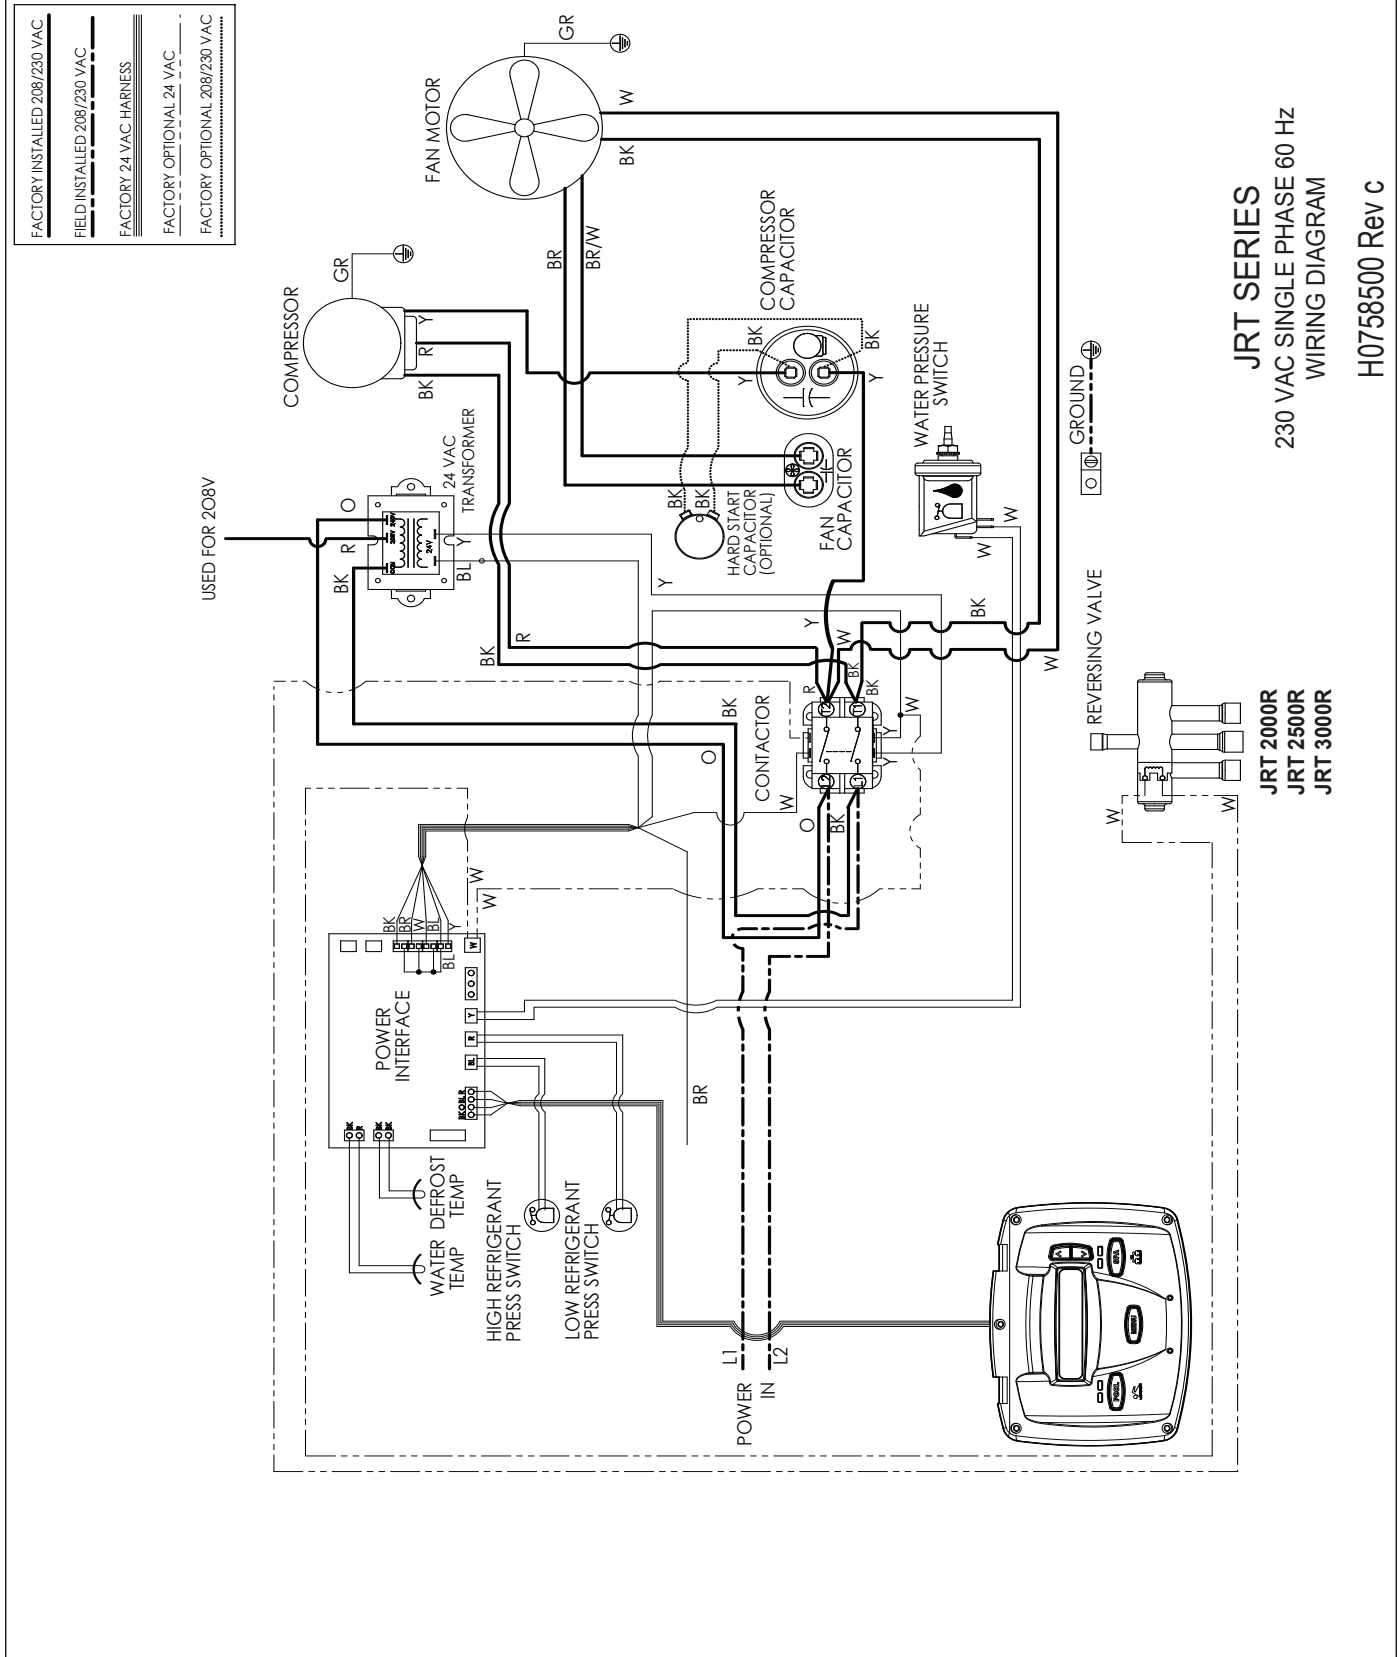
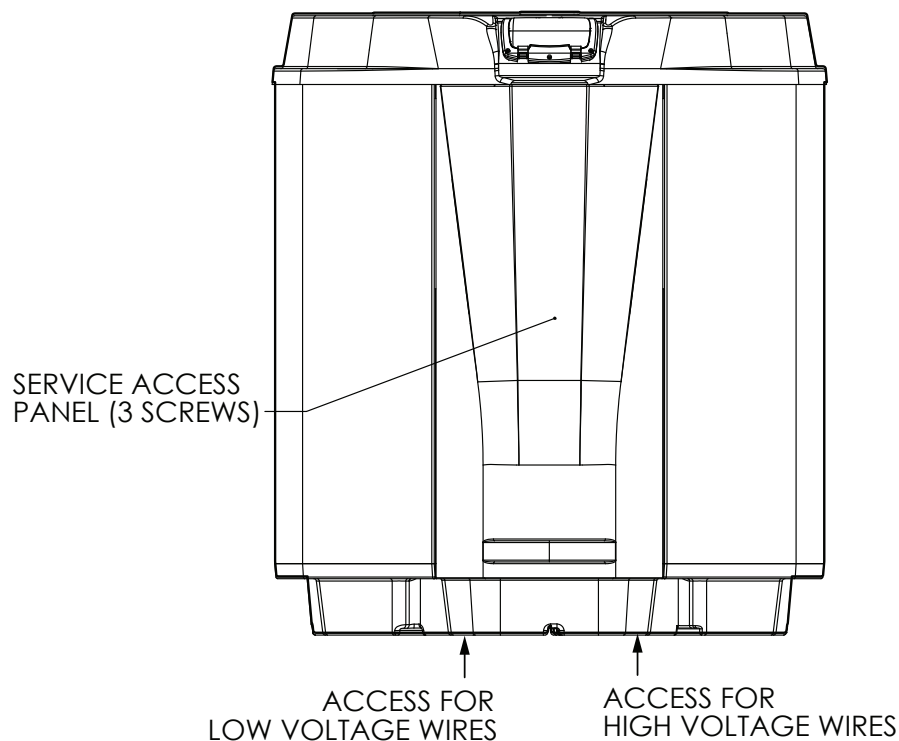

Figure 8. JRT Single-Phase Electrical Supply Wiring Diagram
Figure 9. Jandy JRT Heat Pump Front View
Wiring connections must be made exactly as shown in the wiring diagram found on the inside of the heat pump access compartment (see Figure 8 for single phase electrical wiring). The heat pump must include a definite means of grounding and bonding. There is a bonding lug on the right side of the heat pump, where a bond wire must be attached.
2. Remove the three (3) screws that attach the service/access panel to the heat pump unit (see Figure 9).
8. Connect the wires to the terminals on the main contactor as shown in the wiring diagram. See Figure 8.
2. Remove the screws that attach the service/access panel to the heat pump unit and the cover to the junction box (see Figure 9).
3. Run the wires from the pool/spa control system into the conduit connection labeled "Low Voltage Connection", located on the lower right hand side of the heat pump (see Figure 9).
2. Remove the screws that attach the service/access panel to the heat pump unit and the cover to the junction box (See Figure 9).
3. Run the wires from the pool/spa control system into the conduit connection labeled “low voltage connection”, located on the lower right hand side of the heat pump (See Figure 9).
2. Remove the three (3) screws that attach the front panel to the heat pump and remove the front panel. See Figure 9.
5. Run four (4) 22 AWG solid copper wires into the low voltage soft membrane located on the lower left-hand side of the heat pump. The wires may be up to 300 feet (91.4 m) in length.
6. Connect the wires to the 4 position terminal on the lower left-hand corner of the Power Interface PC Board, labeled “User Interface1”. See Figure 8. The wires will be added to the existing wiring to the User Interface installed on the heat pump.